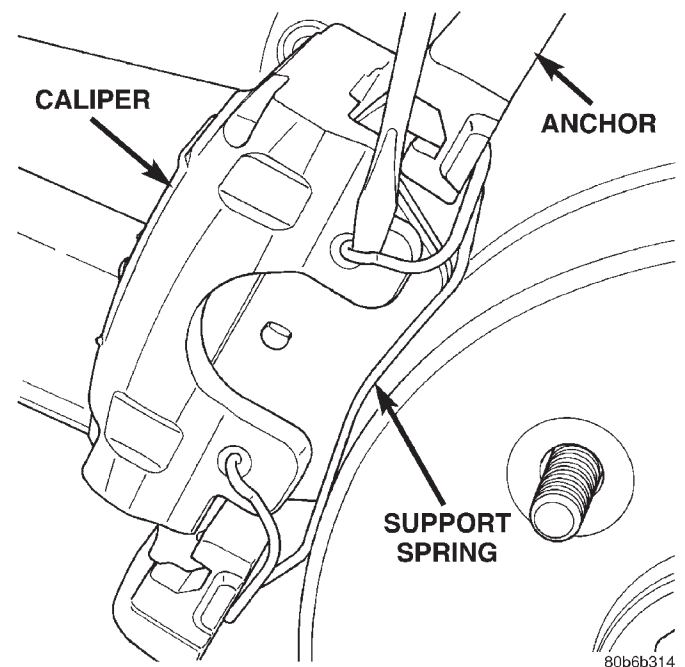

Fig. 34 Caliper Support Spring
- (5) Remove brake hose banjo bolt and discard gasket washers.
- (6) Remove the caliper support spring by prying the spring out of the caliper (Fig. 34).